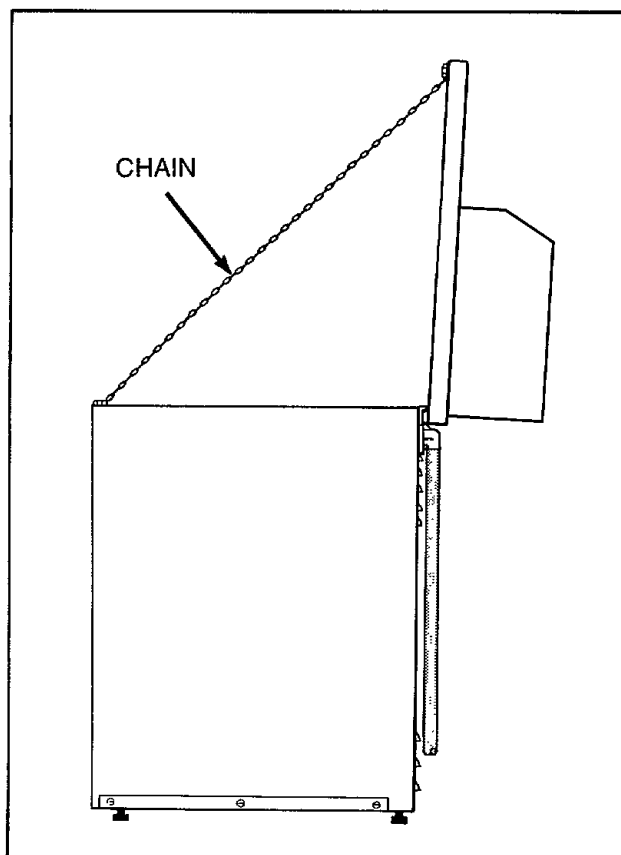

Figure 23
**NOTE:** Cabinet top is self supporting, or use a small chain to support the cabinet top, *Figure 23*.